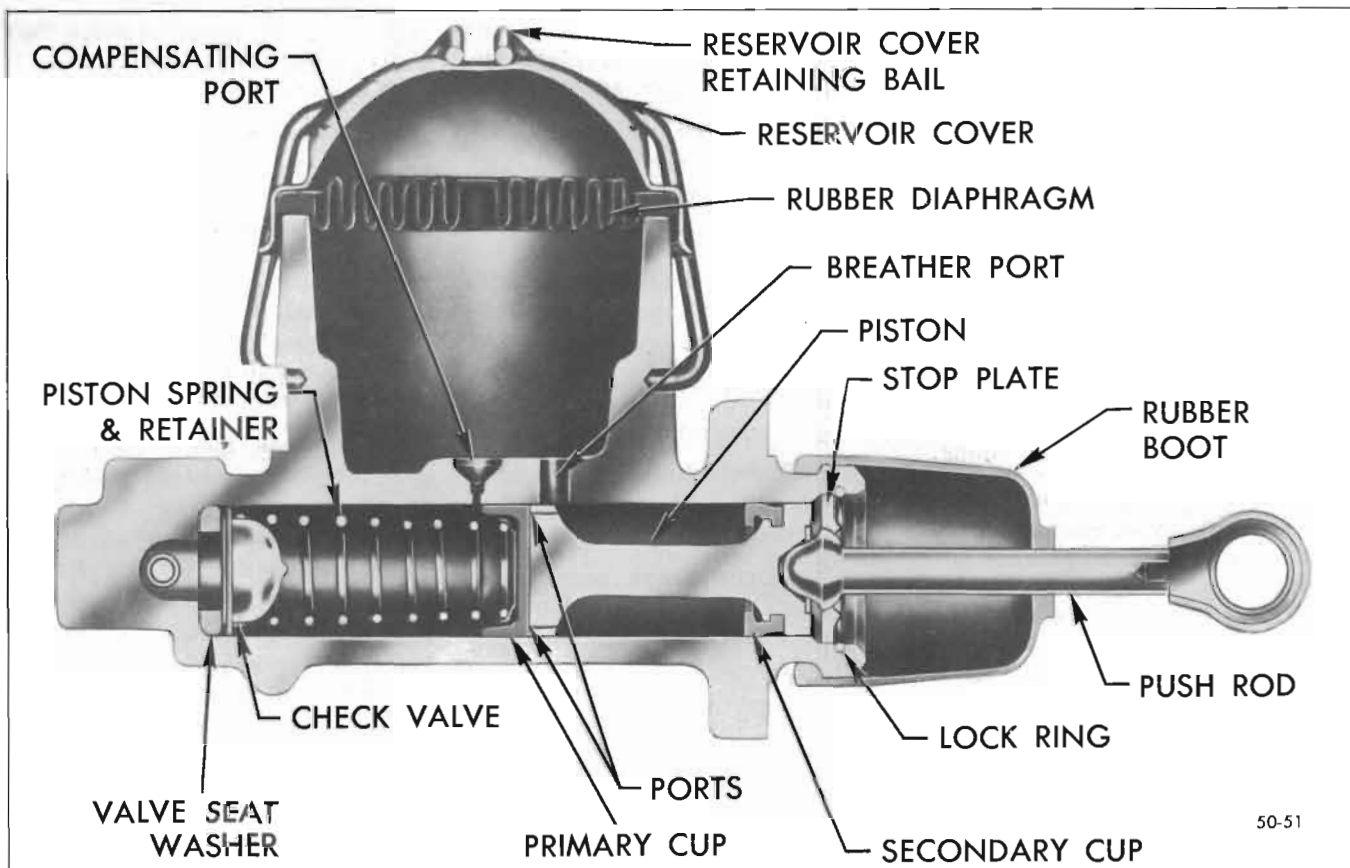

Figure 50-51—Standard Brake Master Cylinder
2. Place master cylinder in a vise so that the lock ring can be removed from the I.D. of the bore. Remove rubber boot. Remove lock ring, then remove push rod with stop plate. See Figure 50-51.